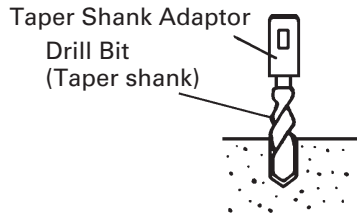
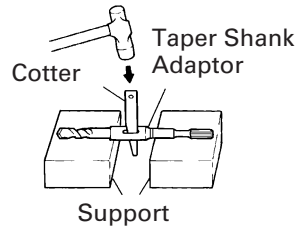

Fig. 11
Fig. 12
- (1) Install drill bit with taper shank in the taper shank adaptor. (Fig. 11)
- (2) Turn the power on and drill a base hole.
- (3) After cleaning out dust with a syringe, attach the plug to the anchor tip and drive in the anchor with a manual hammer.
- (4) To remove the drill bit with taper shank, insert a cotter into the slot of the taper shank adaptor, place supports under the Rotary Hammer and tap the cotter with a manual hammer. (Fig. 12)